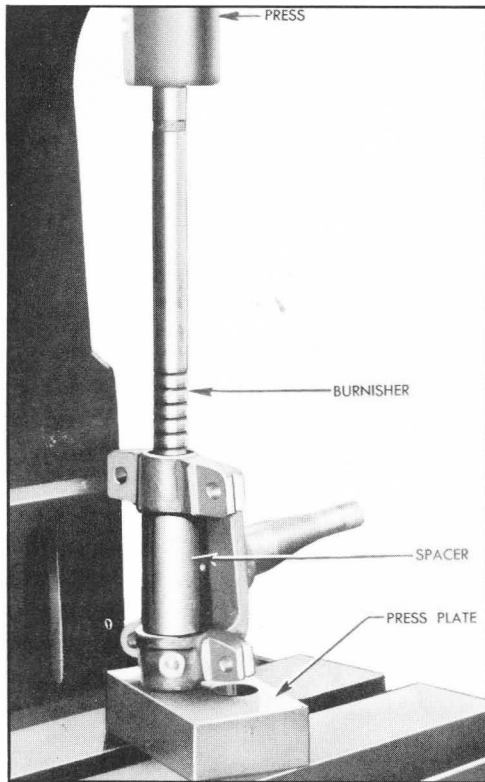

Figure 6-17—Burnishing Steering Knuckle Bushings
3. Burnish bushings, using Burnisher J 722-1, Spacer J 722-2, and Press Plate J 1649. See figure 6-17. The burnisher expands the bushings tightly in place and sizes the holes for reaming.